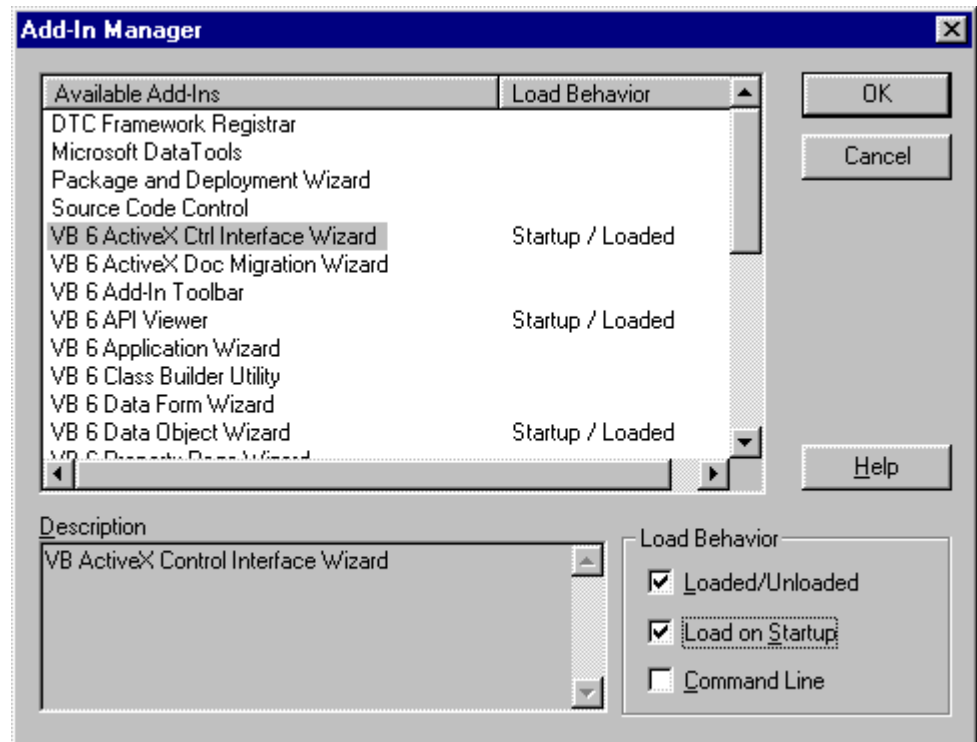

Figure 9. The Add-In manager allows you to add wizards for the current session, and for future sessions as well.
1. **Ensure that the wizard is available:** pull down the Add-Ins menu. If you don't see "ActiveX Control Interface Wizard..." on the bottom of the menu, choose "Add-In Manager..." and select the wizard from the list. Figure 9 shows the Add-In Manager.